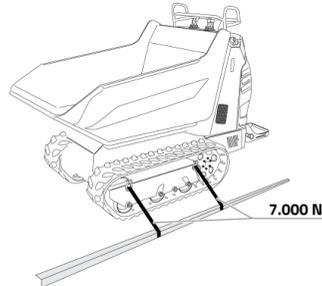

fig. 29- Anchoring points for transport
- Fix the lifting hooks exclusively to the anchoring points that were prescribed by the manufacturer (*fig. 29*);
- Stick firmly to the floor of the means of transport through the **chain approved Cormidi** (Cod. C0260.00.3) purchased from authorized dealers Cormidi), connecting more with the points set as in Figure 29.